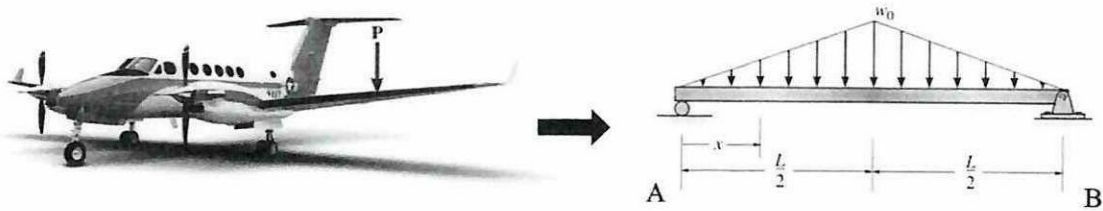

Figure Q2(c)
- (c) A wing spar of Beechcraft King 260 is subjected to a triangular distributed loading as shown in **Figure Q2(c)**. W_0 and L are given as 15 kN/m and 10 m, respectively and EI is constant. Determine: